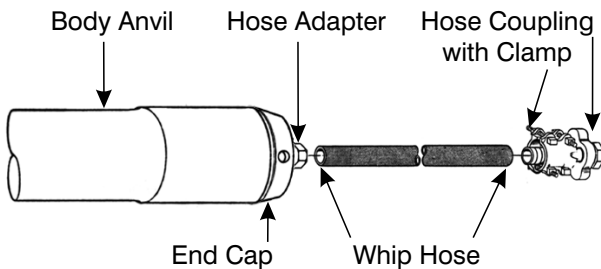

Figure 11-11. Whip Hose disassembly
To install a new Whip Hose (14), the Hose Coupling with Clamp (16) and the old Whip Hose (14) must be removed from the Hose Adapter as shown in Figure 11-11.